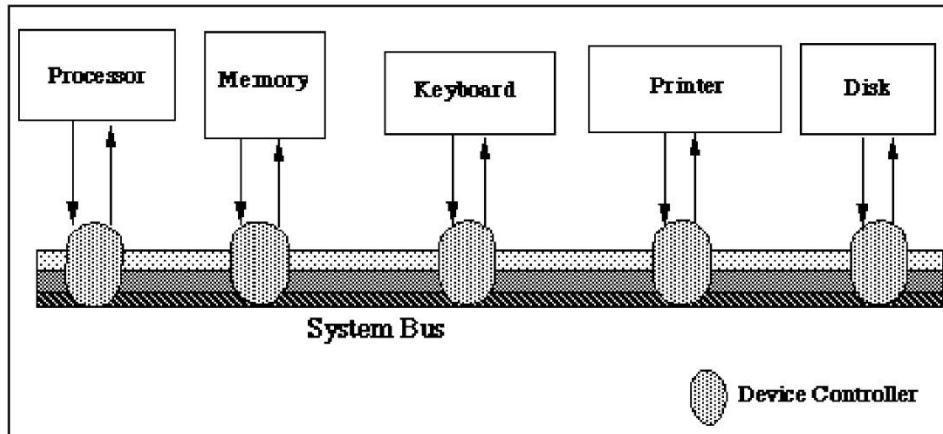

Figure 8.2: The system bus: the processor communicates with all devices via the system bus
- ⇒ A simple bus configuration is shown Figure 8.2.
- ⇒ As indicated in Figure 8.2, the lines of the bus may be classified into 3 groups.